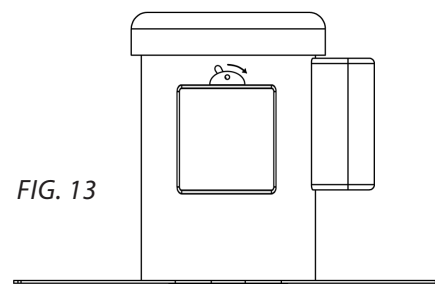

FIG. 13
- 13** Installation is complete! Plug in your collector and turn on the rocker switch mounted on the motor. [FIG. 13]